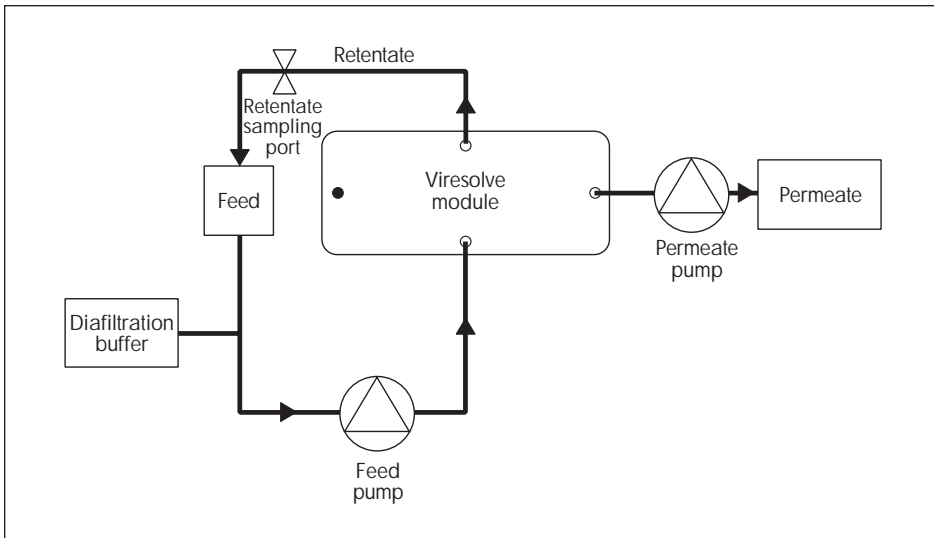

Figure 17. System Configuration for Volume Reduction
1. Fill the feed bag (reservoir) with the protein (at least 300 mL). Assemble the system as shown in Figure 17.